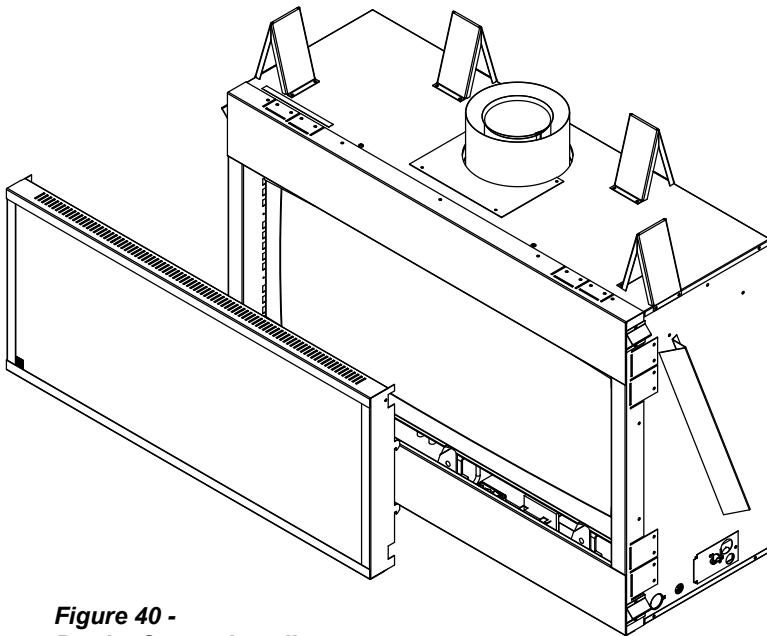
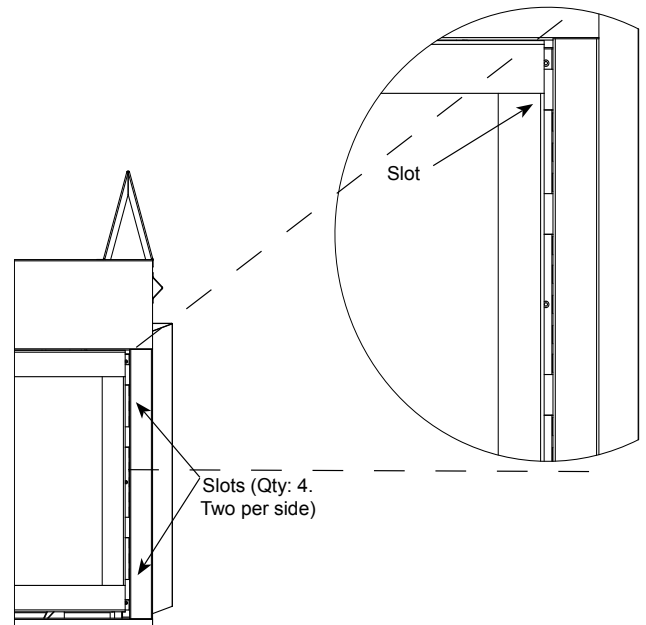

Figure 40 - Barrier Screen Install
Figure 41 - Screen Slot Placement
2. Align the four tabs on the sides of the screen frame (two top, two bottom) *Figure 40* with the corresponding slots on the firebox. *Figure 41*